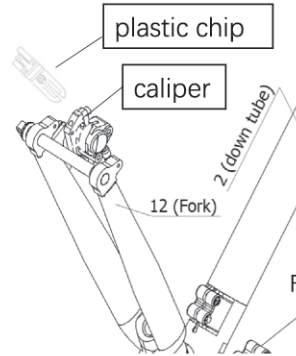

Figure 44-1.
a. Pull off the plastic chip from the brake caliper, as shown in Figure 44-1.